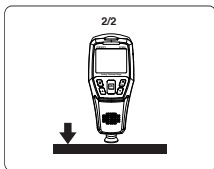

Figure 6
6. Figure 6 will now appear on the screen, prompting users to place the instrument vertically on the uncoated substrate again.